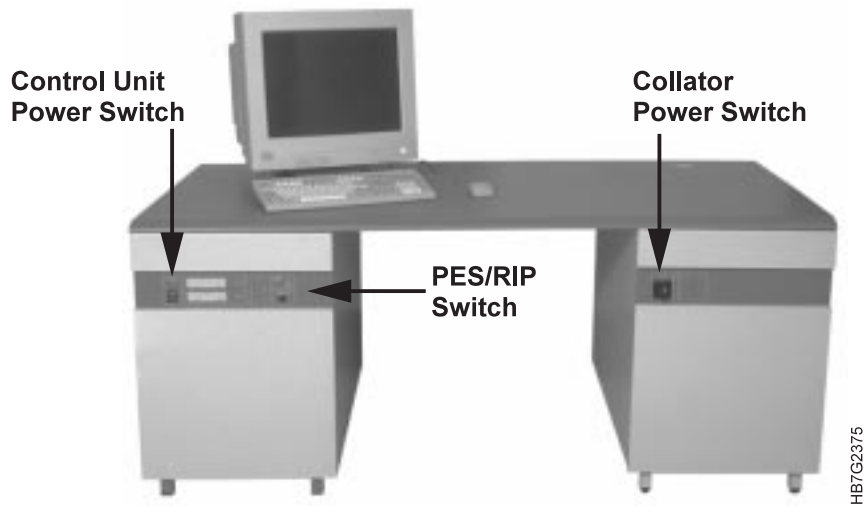

Figure 74. InfoColor 70 Console
- 6 After the Collator self-test has completed successfully, turn on the control unit power switch, as shown in Figure 74.